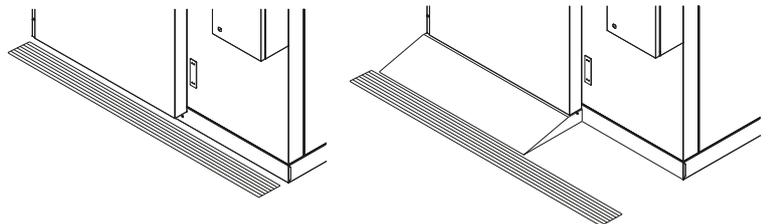

figure 2
- In the case of panel blast chillers, prepare a drainage duct near the door and convey the condensate drain pipe into the wastewater network. If the machine has the ramp it is possible to install the drainage duct before the ramp, or at the door exit at the threshold (figure 2).